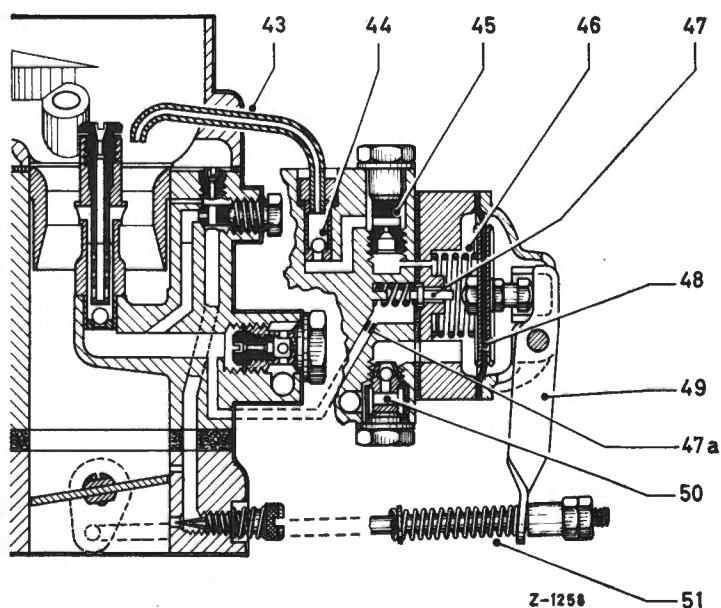

Fig. 07-2/2
The accelerating pump is as before a so-called neutral pump, with which it is possible for the engine under partial load and full load, depending on the depression in the air horn, to draw additional fuel from the pump system without using the accelerating pump. In addition, however, the accelerating pump is fitted with a valve which at a throttle valve position of $65-70^\circ$ is opened by the pin of the pump diaphragm. In this way, when the engine is under full load, additional fuel flows through the check valve (50), the open valve (47), the enriching jet (47a), and through a fuel canal, by-passing the main jet, directly into the mixing tube holder. In throttle valve positions above $65-70^\circ$ the fuel air mixture is thus additionally enriched (Fig. 07-2/2).